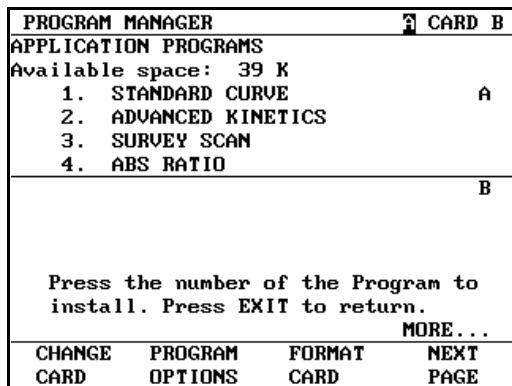

Figure 2-3 Program Manager screen
3. Press the number of the directory containing the files you want to transfer. For example, to transfer all the files in the **ABS/%T/CONC** directory shown in Figure 2-3, press **1**. A screen appears listing the names of the available files.
When you select **Program Manager** from the **Main Menu**, a screen like the one shown in *Figure 2-3* appears.